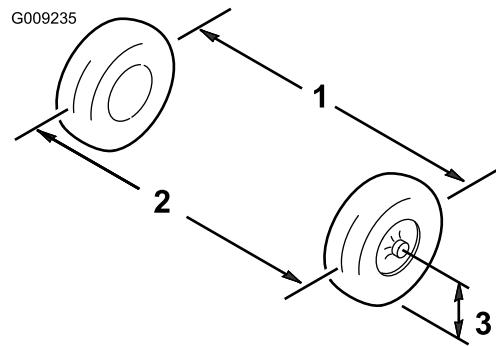

Figure 52
1. Measure the distance between both of the front tires at the axle height at both the front and rear of the front tires (Figure 52).